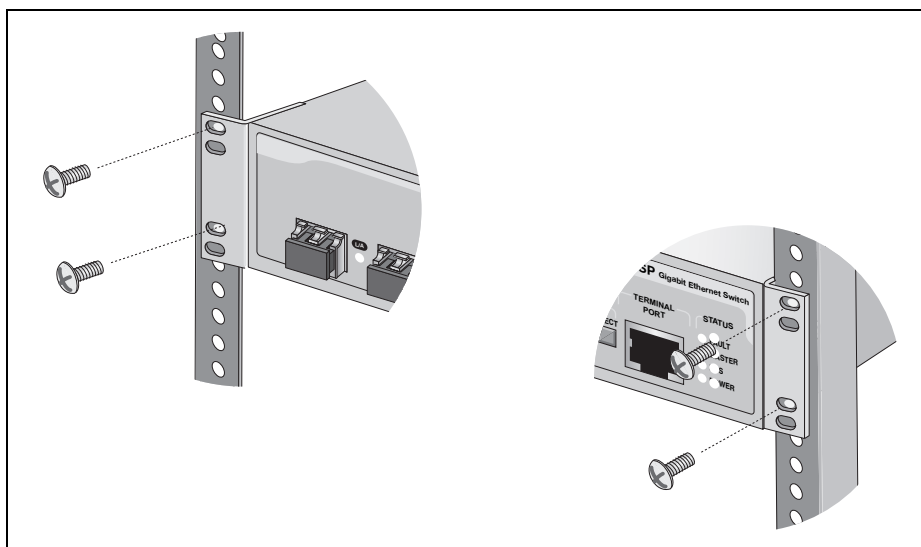

Figure 16. Mounting the Switch in a Rack
6. Mount the switch in a 19-inch rack using standard screws (not provided), as shown in Figure 16.